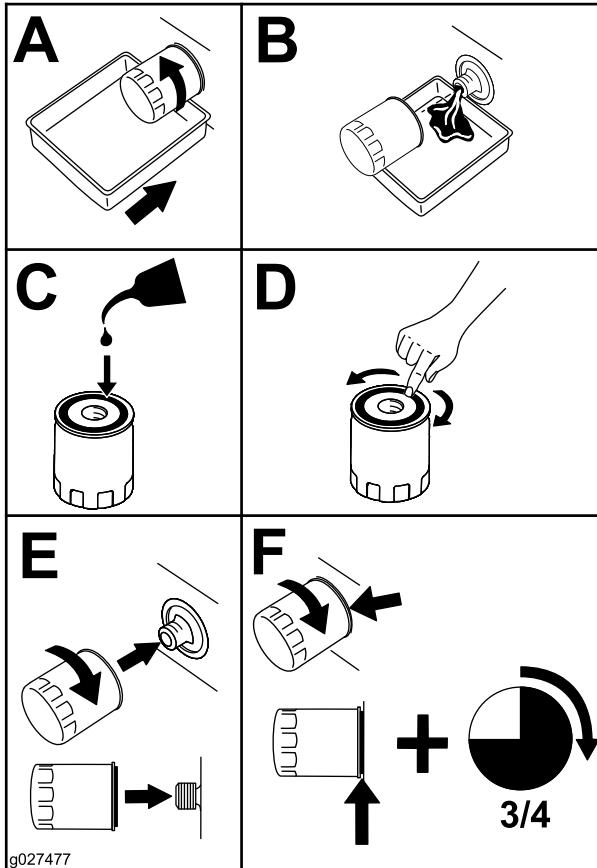

Figure 64
2. Change the engine-oil filter (Figure 64).